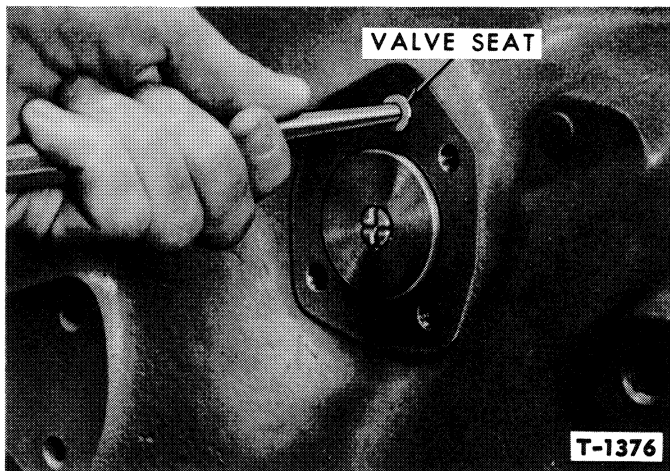

Figure 121—Removing Servo 1 Flow Restrictor Valve
- c. Insert a suitable tool which incorporates an offset, and pull out the valve seat as shown in Figure 121. This will permit the check ball, spring, and washer to be removed.